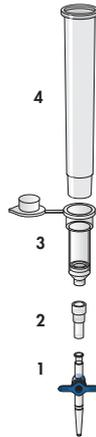

Figure 4. Assembly of QIAamp Mini columns with extension tubes (for buccal swabs or large volumes).
5. **If necessary, insert an Extension Tube into each QIAamp Mini column (see Figure 4).**